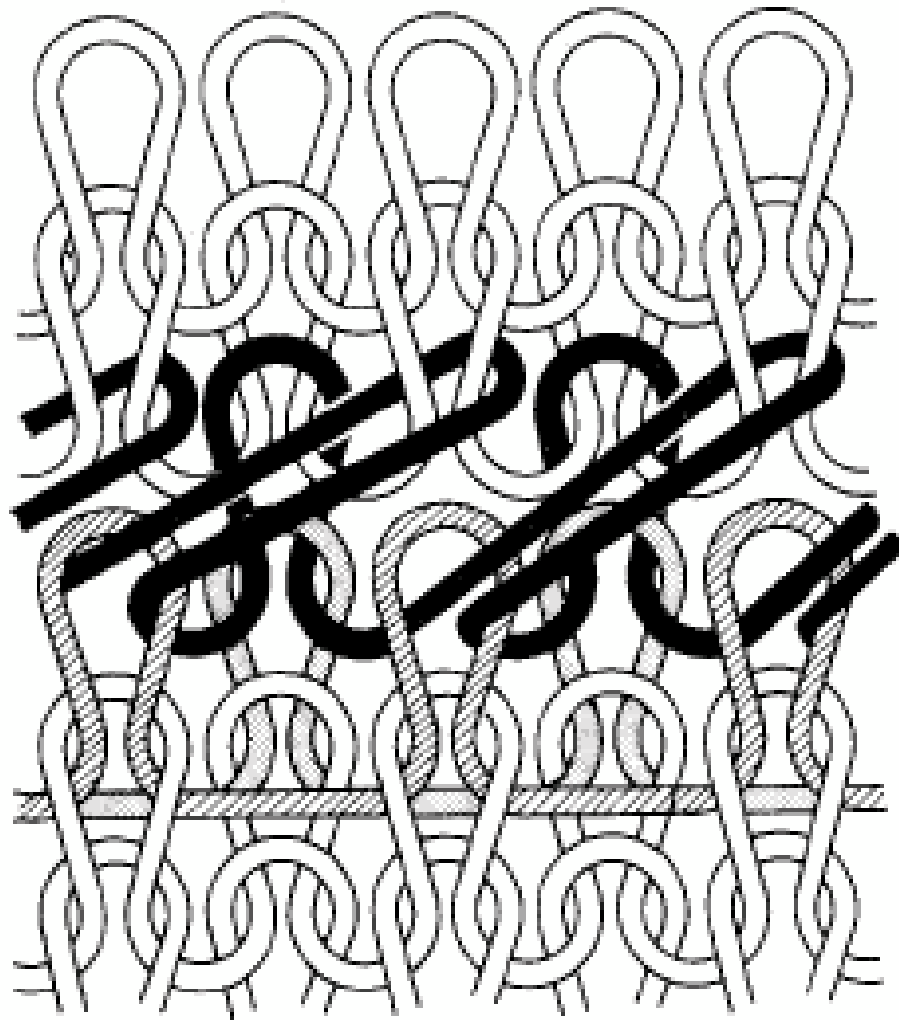

Fig. 16.6 Raked welt.
- The *racked welt* (Fig. 16.6) is neat and inconspicuous, rather like the set-up course of hand knitting in appearance, and is favoured for **collars** and **other trimmings**.